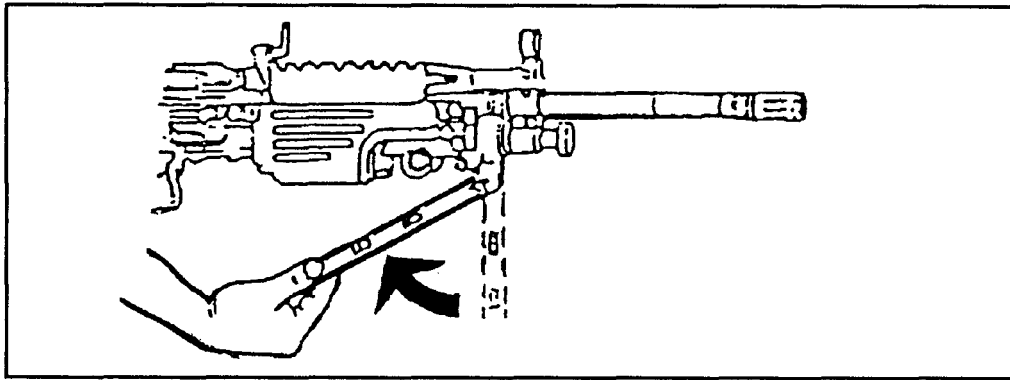

Figure 3-6. Folding of the bipod under the handguard.
- c. Fold the bipod legs when transporting the weapon. Hold the two legs together, pull back under the handguard, and release so that the hooks on the legs grip the handguard. The bipod can be folded only when the legs are in the closed position (Figure 3-6).